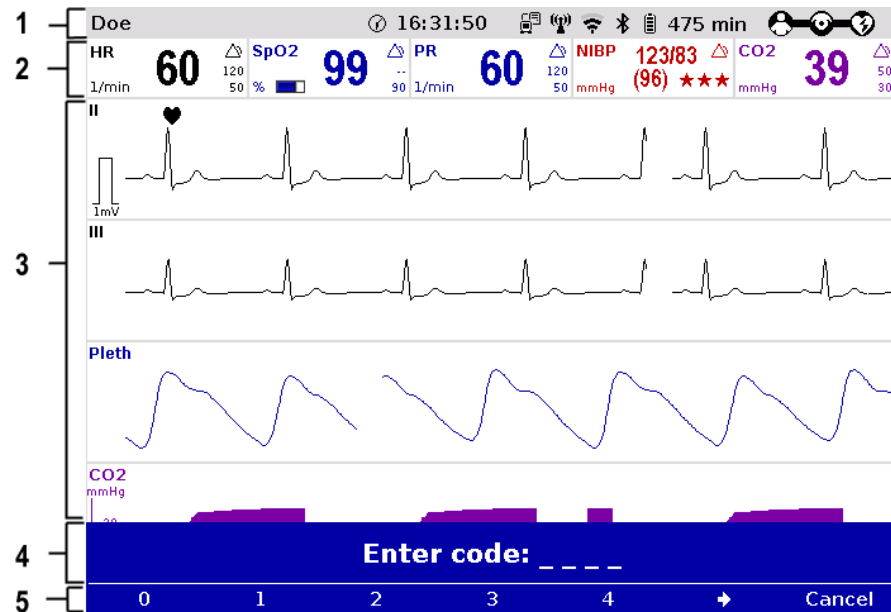

Fig. 4-2 Monitoring unit, example of basic structure of the screen pages
**Status-/alarm line** The following data are displayed in the status-/alarm line (Fig. 4-2, item 1):
**Parameter area** The measured parameters and the configured alarm limits are displayed in the parameter area (Fig. 4-2, item 2) of the display.
**Curve and display area** Up to 6 curves of measured values of monitoring functions can be displayed in the curve and display area (Fig. 4-2, item 3) of the display.
**Message line** In the message line (Fig. 4-2, item 4) of the screen, additional interactions with the user interface are displayed, e. g. to enter the PIN code for the OPERATOR user level or to enter patient data.
**Softkey line** The current function assignment of the softkeys is displayed in the softkey line (Fig. 4-2, item 5).